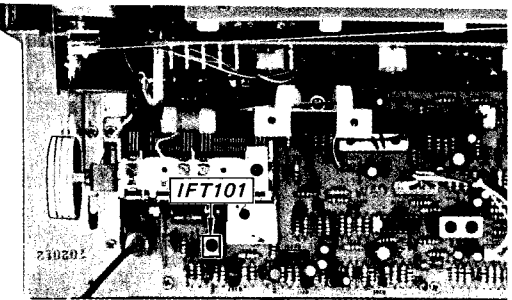

Fig. 3-3. Adjustment part location
2. Tune SQR-6750 to 98 MHz and adjust IFT101 (see Fig. 3-3) for a maximum output level.